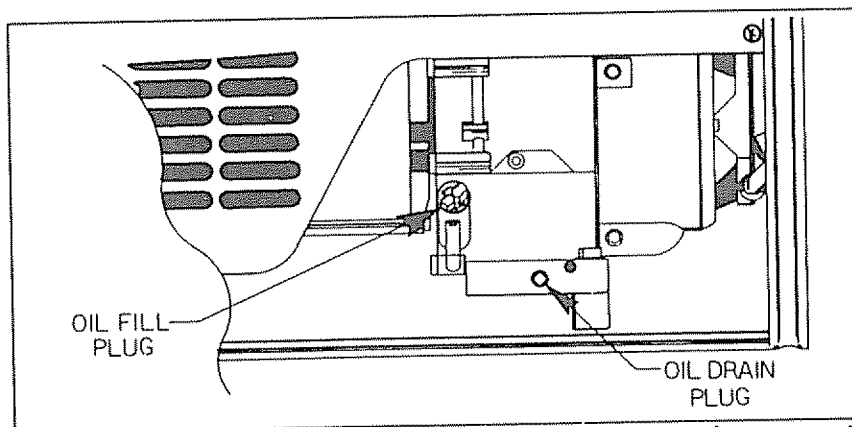

Figure 2-1. Engine Oil Fill and Oil Drain Locations
2.1- PREPARATION BEFORE USE (Figure 2-1)
a. Check Engine Oil Level (Figure 2-1):- Check oil level and (if necessary) fill to proper level with the recommended oil as follows:-
(1) Place the generator on a level surface.
(2) Remove OIL FILL PLUG by turning counterclockwise.
(3) Check oil level. Oil should be at point of overflowing the OIL FILL PLUG opening. If necessary, add oil to that level. See **ENGINE SPECIFICATIONS CHART** at front of Manual for recommended oils and crankcase capacity.
(4) When oil is at proper level, install and tighten OIL FILL PLUG.